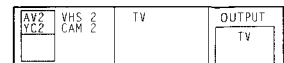

Fig. 46.
- 3 Select the desired source with  $\Delta$ + or  $\nabla$ -. (See Fig. 46)